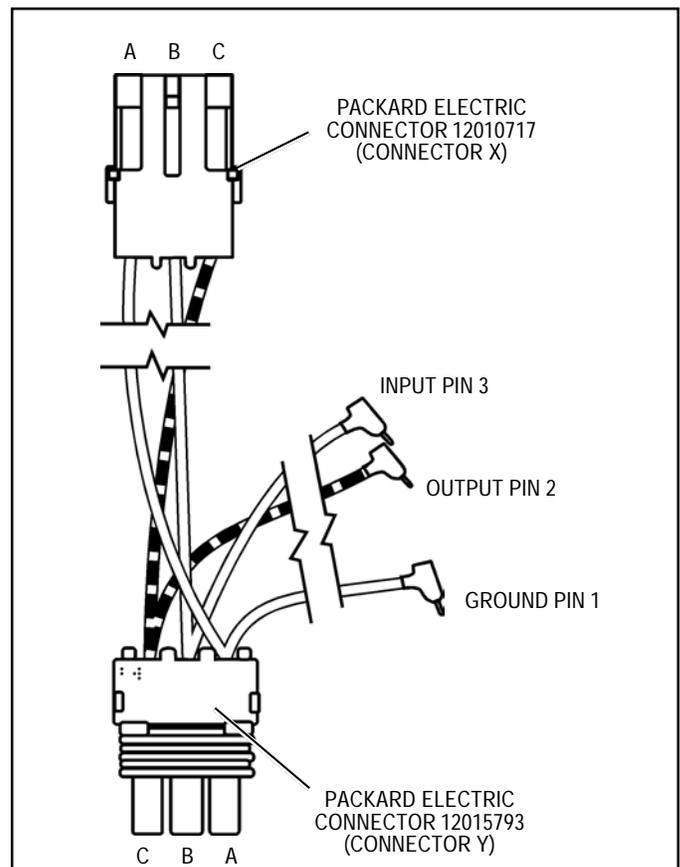

FIGURE 6 - ET-2™ TREADLE ELECTRICAL TEST SCHEMATIC FOR THE CUMMINS CONNECTOR
1. First construct the “breakout” harness shown in Figure 6.